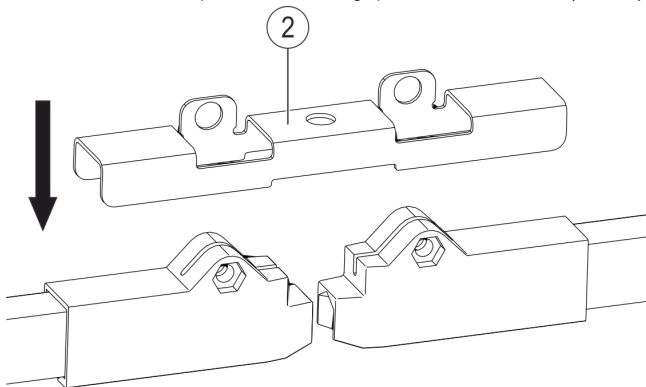

Fig. 100: Place plate on end caps
- Place the plate for the air gap insulation section (Pos. 2) on the end caps (Pos. 1) (see Fig. 100).